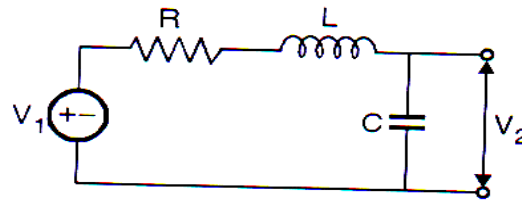

Figure 2
- Q8) a)** For the series RLC circuit shown in Fig.2, find transfer function. Calculate the sensitivities of K , the resonant frequency ω_p , the quality factor (Q_p) with respect to R , L and C . Comment on the result obtained. **[6]**